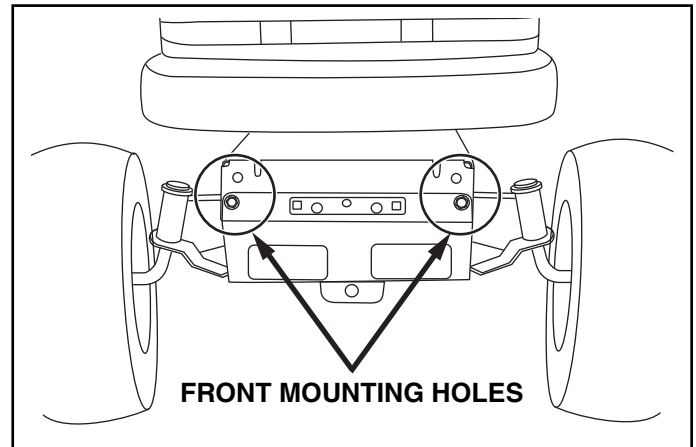

FIGURE 7
- If the front of your tractor has front mounting holes as shown in figure 7, continue on to step 11.